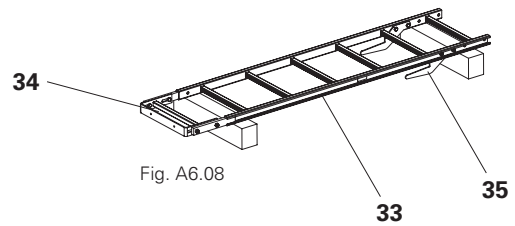

Fig. A6.08
6. Attach the ladder base (**34**) and ladder hook (**35**). (Fig. A6.08)